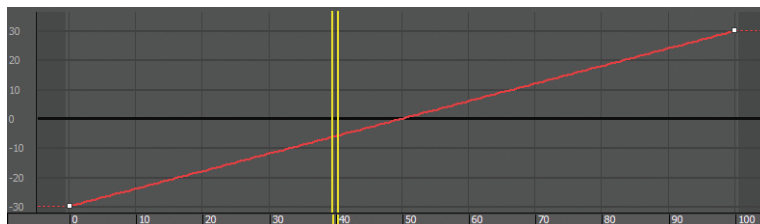

FIGURE 5.20 The X Position curve for the ball's movement now has no ease-out or ease-in.
11. In the Curve Editor, select both keys for the X Position curve and click the Set Tangents To Linear icon () to create a straight line of movement so there is no speed change in the ball's movement left to right. Figure 5.20 shows the proper curve.